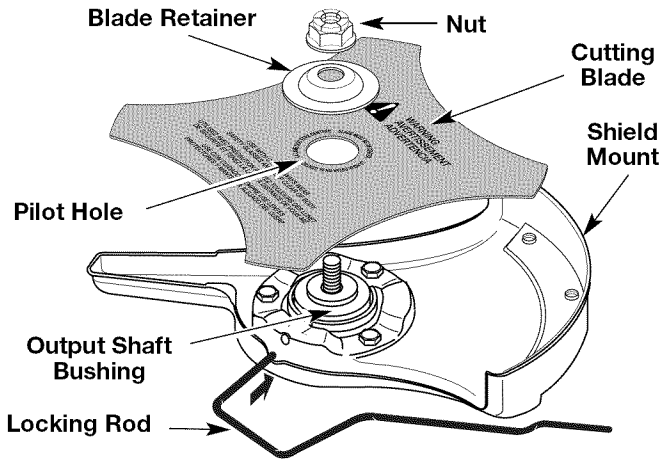

Fig. 11
- Place the cutting blade on the output shaft bushing (Fig. 11).